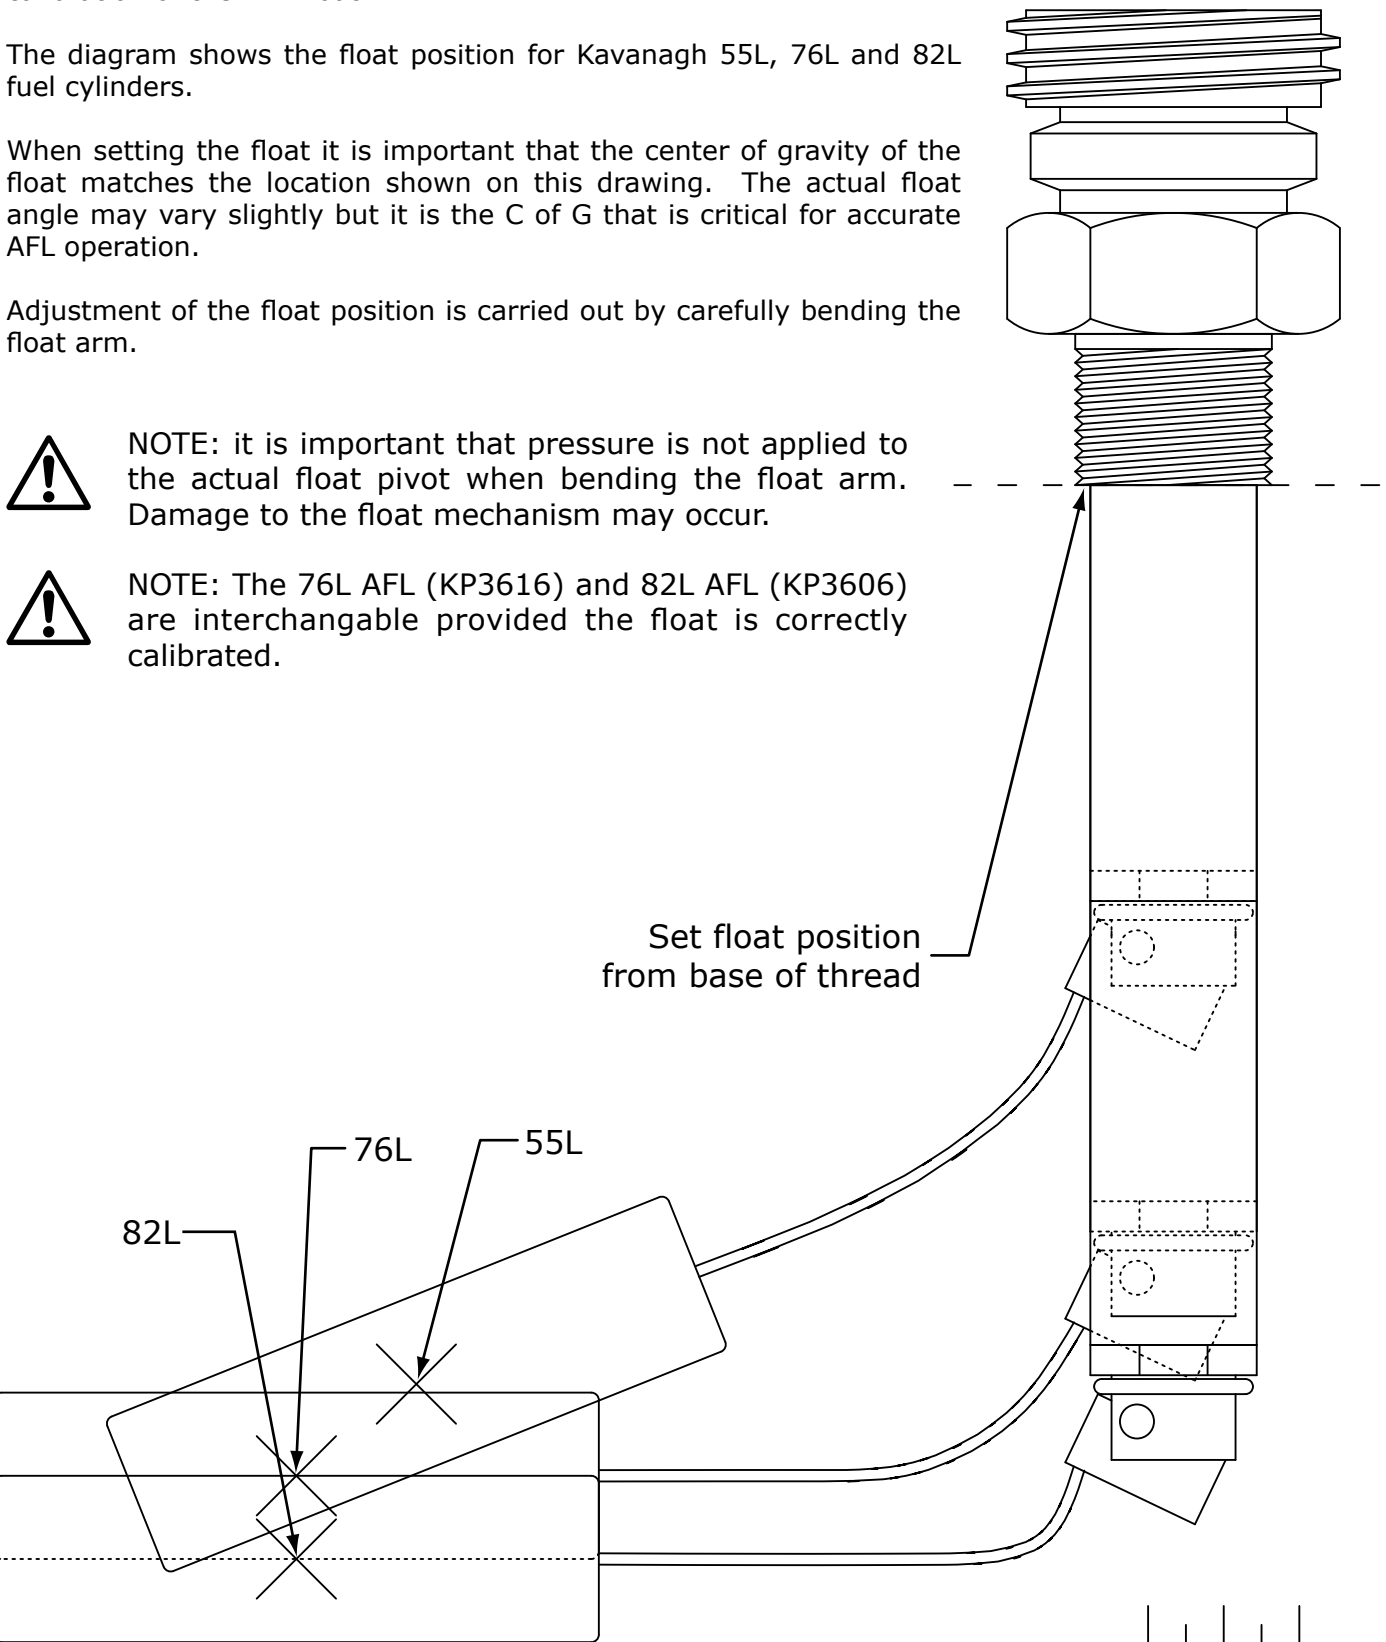

Figure 2 - AFL Calibration
- 8) Check the calibration of the AFL float mechanism and adjust if required. Refer to Figure 2 for the calibration check.